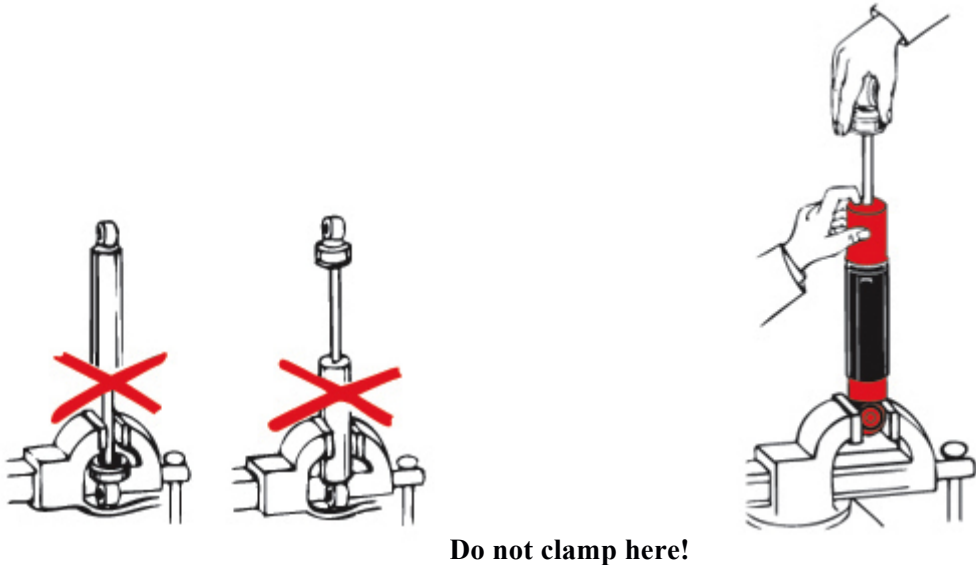

Figure 1: Only hold by attachment on body, lower dust cover.
2. Hold the damper body by hand where the piston rod emerges from the cylinder. Push the button carefully, by hand, and hold it in that position (figure 1 & 2). (Do not use any device, other than by hand to depress button).